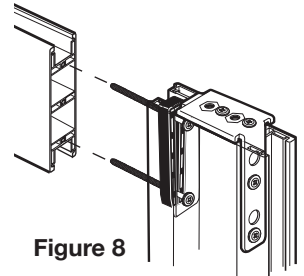

Figure 8
Place the end of the Top rail (C) against the screws, lining up the holes in the extrusion. Once in place, continue tightening screws until stile and rail are flush and secure. This will be the top of the door See Figure 8.